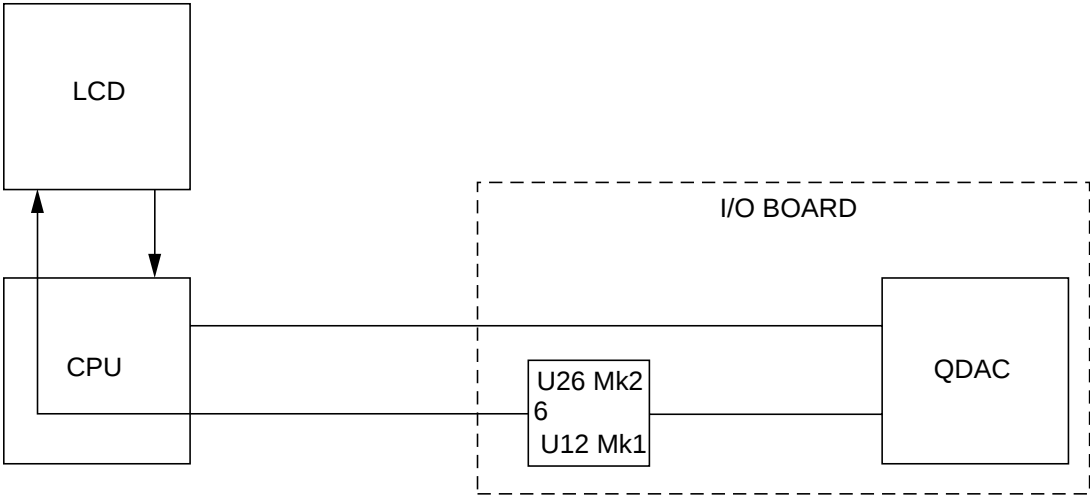

Fig 11.16 LCD Contrast control
20.3 Fig 11.16 - LCD contrast control.